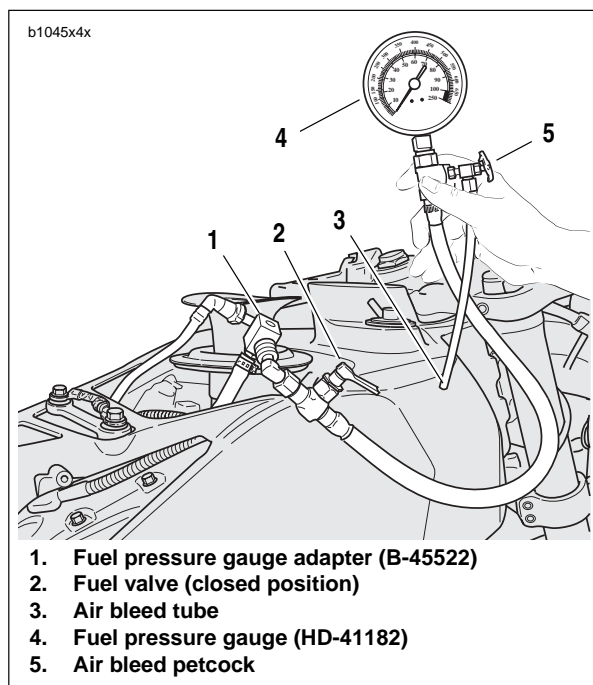

Figure 4-27. Fuel Pressure Gauge (Part No. HD-41182)
See Figure 4-27. Verify that fuel valve (2) and air bleed petcock (5) on the gauge are closed.
- Attach FUEL PRESSURE GAUGE (Part No. HD-41182) (4) to fuel pressure gauge adapter (1).
8. See Figure 4-27. Pressurize the fuel system.
- b. Open fuel valve (2) on fuel pressure gauge to allow fuel to flow down the gauge hose.
- c. Position the air bleed tube (3) into proper container.
- d. Open and close the air bleed petcock (5) to purge the fuel pressure gauge and hose of air. Repeat this step several times until only solid fuel (without bubbles) flows from the air bleed tube.
10. See Figure 4-27. Turn engine off. Detach pressure gauge (4) from adapter (1).
- a. Open the air bleed petcock (5) to relieve fuel system pressure and purge the pressure gauge of gasoline.